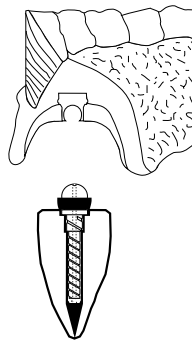

Fig.5 Cap Incorporation
**Caution!!** Again, do not remove the rubber band around the base of the overdenture attachment until *after* the attachment cap is incorporated into the denture. If you do, the acrylic could lock into the undercut of the ball and prevent removal of the denture from the mouth. The rubber band prevents this from occurring (Fig. 5).